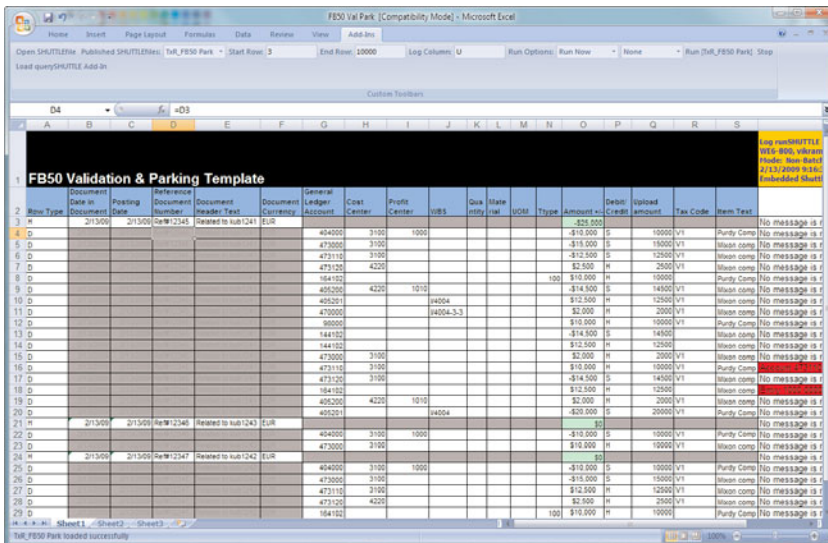

FIGURE 27.1 Use WinShuttle to quickly complete a journal voucher data entry screen for SAP
- ▶ **SAP data entry**—Post-implementation, use WinShuttle tools as easy-to-use data entry front ends to complex SAP transactions. In this way, WinShuttle can streamline the SAP data entry process (see Figure 27.1).